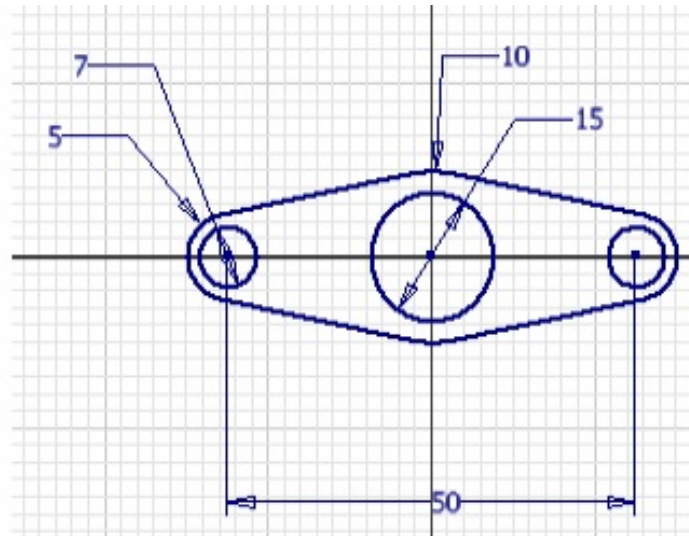

Figure 4-93 Sketch after adding dimensions
1. Dimension the sketch as required. The sketch, after it has been dimensioned, will look similar to the one shown in Figure 4-93.